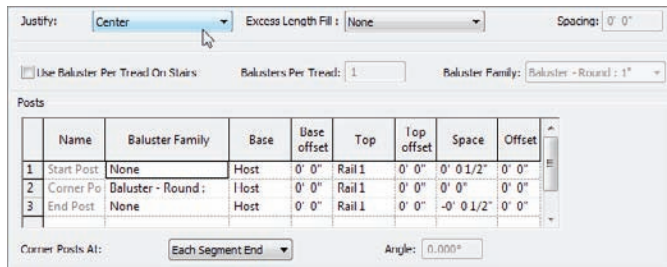

FIGURE 10.25 Configuring the railing for the landing
- 14.** In the **Posts** field, change the **Start** and **End Post** to **None** (as shown in Figure 10.25).
- 15.** Also, just above the **Posts** field, change the **Justify** option to **Center** (again, see Figure 10.25).